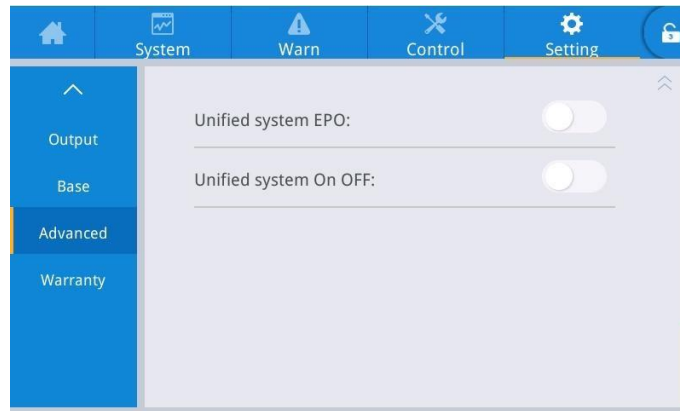

Fig.5-9 Unified System On/Off setting interface
3. Unified system on/off is enabled. If you need to set the parallel power on/off of the parallel system, you can set the [Unified System On/Off] option in the advanced parameter settings of the setting interface, as shown in Figure 5-9.